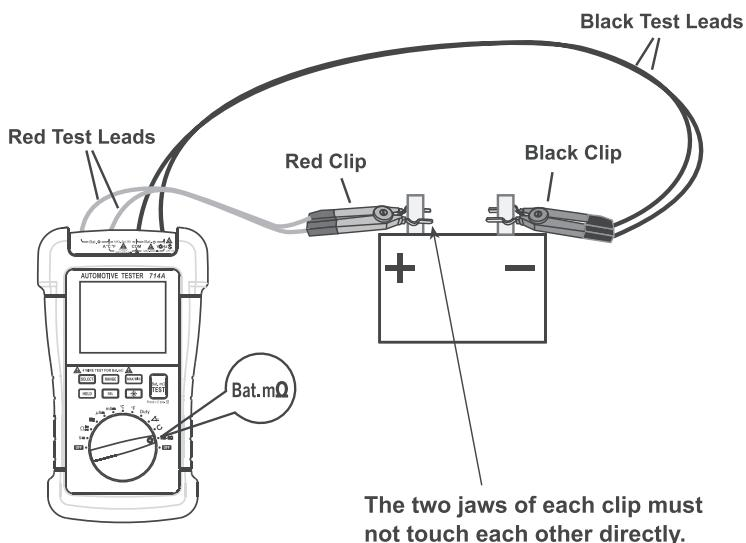

figure 8
2. See Figure 8, insert the plugs of the two red test leads into the two "**Bat.**  " terminals and the plugs of the two black test leads into the two "**Bat.**  " terminals.
3. Remove the oxide layer on the surface of the battery terminals. Clip the red clip to the battery's positive terminal, and clip the black clip to the battery's negative terminal (Figure 8). Note: For accurate measurement, the two jaws of each clip must not touch each other directly (Figure 8).